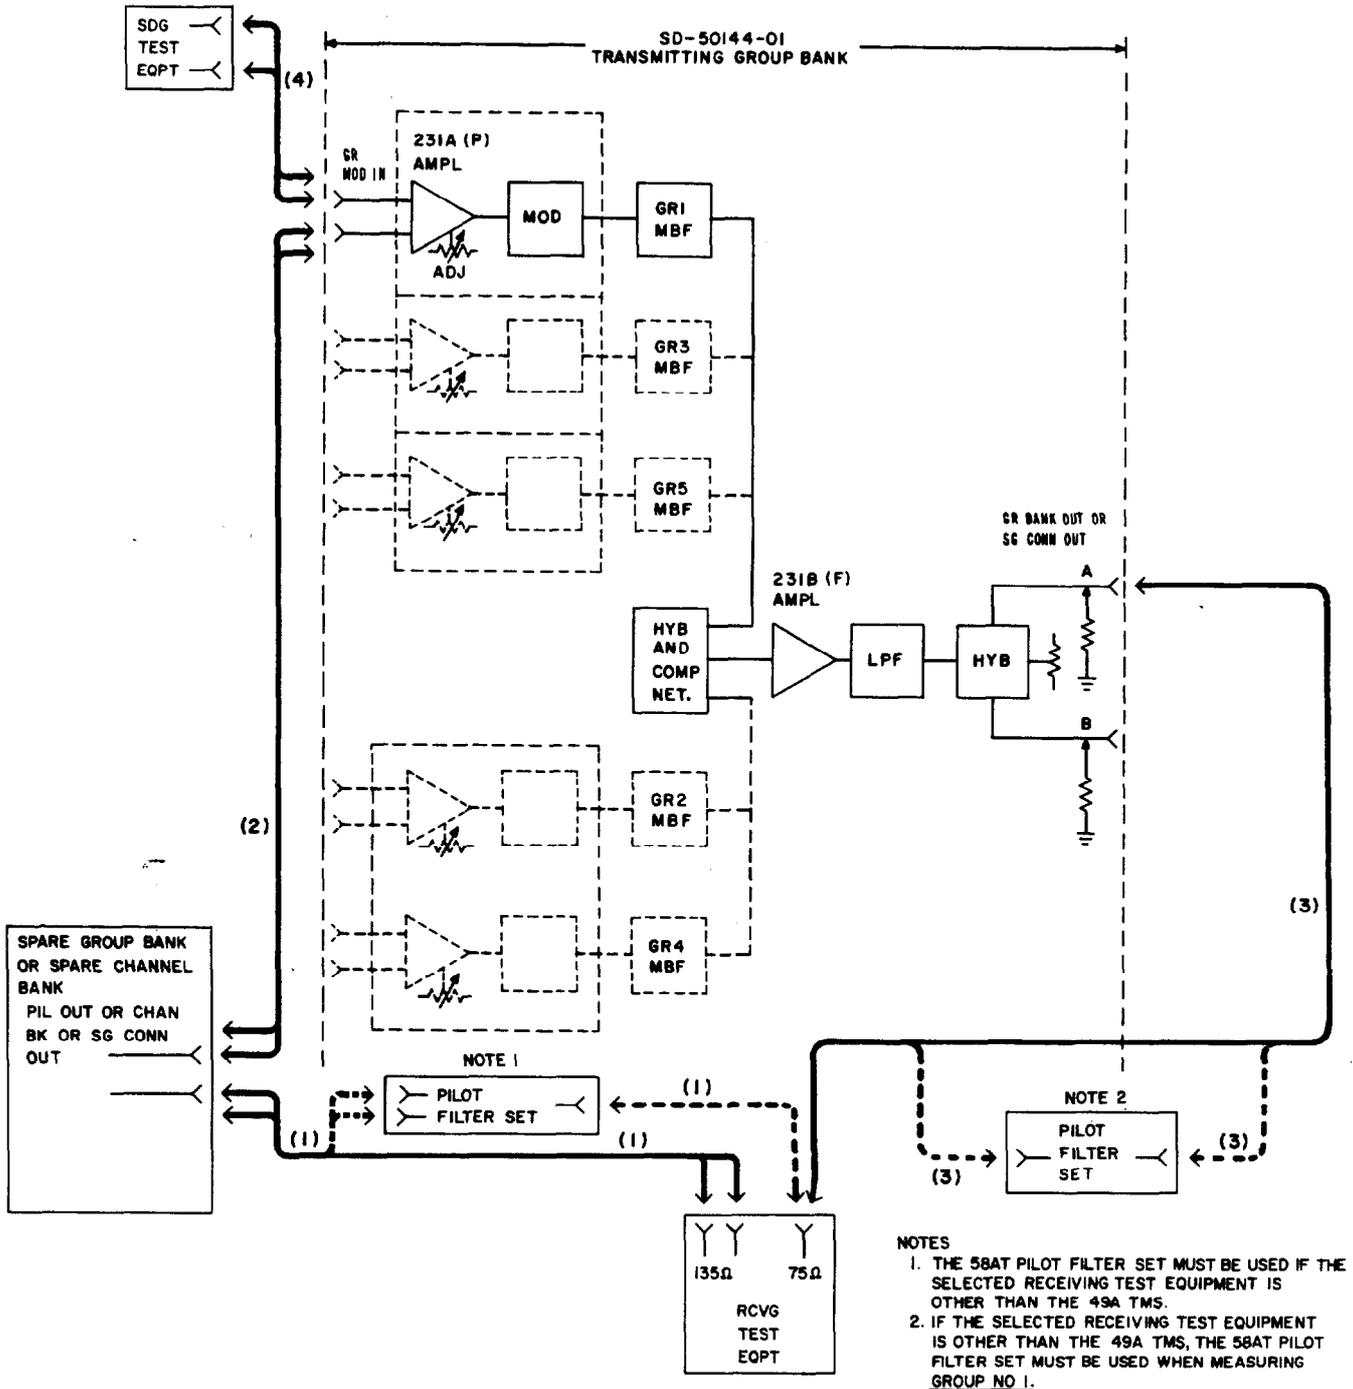

Fig. 2—Group Modulator—Out-of-Service Gain Tests
- 3 Connect the receiving test equipment to the **PIL OUT or CHAN BK or GR CONN OUT** jack [patch (1), Fig. 2].
| 9 | Connect the spare group bank or spare channel bank to the GR MOD IN jacks [patch (2), Fig. 2]. |
| 10 | Connect the receiving test equipment to the GR BANK OUT or SG CONN OUT A jack [patch (3), Fig. 2]. |
| 17 | Remove patch (2), Fig. 2, and the 58AT pilot filter set if it were used. |
| 20 | Connect the sending test equipment to the GR MOD IN jack [patch (4), Fig. 2]. |